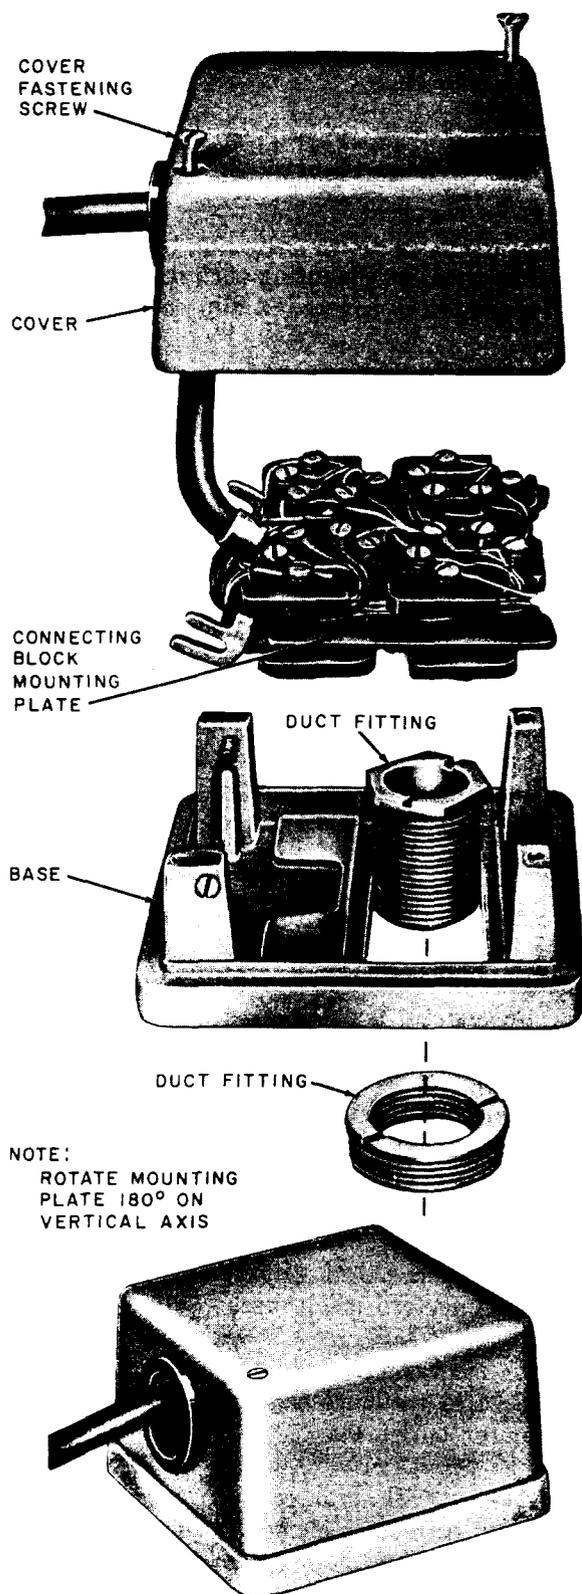

Fig. 4—Nepcoduct 7906-LC4 Outlet
5.02 The Nepcoduct 7906-LC4 outlet (Fig. 4) consists of a base, hinged mounting plate, and cover and is used to house four 44-type connecting blocks.